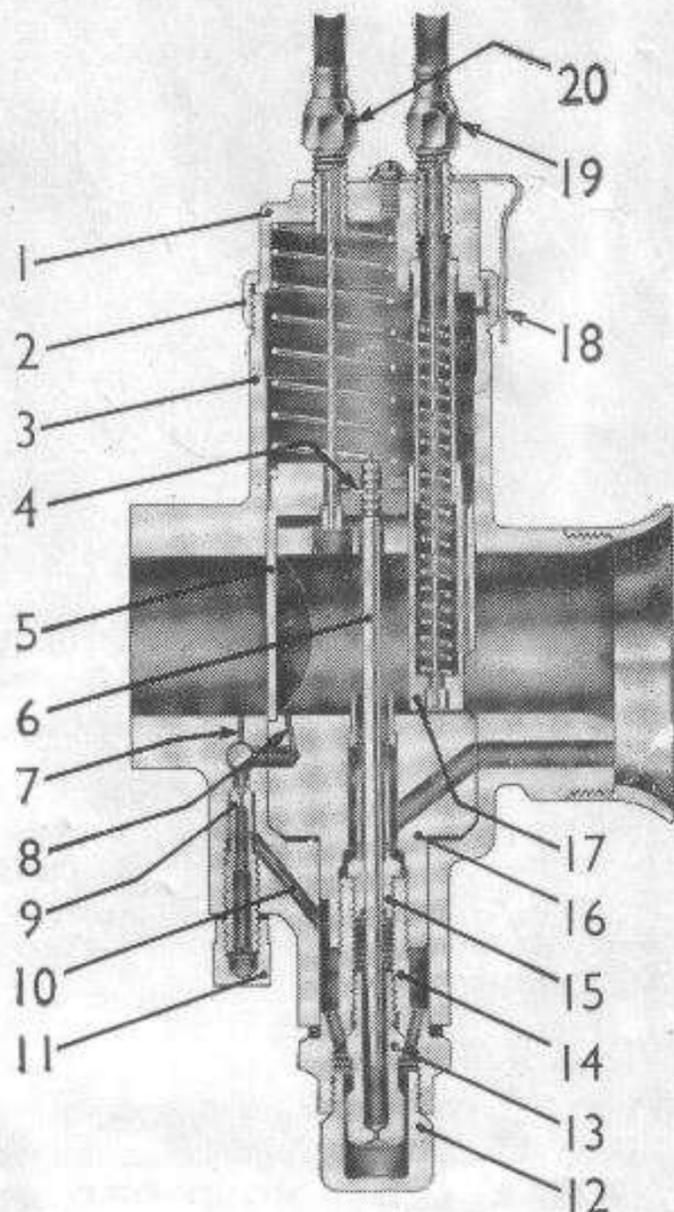

Fig. 2—Section through mixing chamber, showing air valve and throttle closed.
**PETROL FEED, verification.** Later models are fitted with a filter gauze at the inlet to the float chamber. To remove the filter gauze unscrew the banjo bolt (22), the banjo can then be removed and the filter gauze withdrawn from the needle seating. Ensure that the filter gauze is undamaged and free from all foreign matter. Before replacing banjo turn on petrol tap momentarily and see that fuel gushes out. Avoid petrol pipes with vertical loops as they cause air locks. Flooding may be due to a worn needle or a leaky float, but nearly all flooding with new machines is due to impurities (grit, fluff, etc.) in the tank—so clean out the float chamber periodically till the trouble ceases. If the trouble persists, the tank might be drained, swilled out, etc.
**BAD PETROL CONSUMPTION** of a new machine may be due to flooding, caused by impurities from the petrol tank lodging on the float needle seat and so prevent its valve from closing. Flooding may be caused by a worn float needle valve. Also bad petrol consumption will be apparent if the needle jet (15) (see fig. 2) has worn; it may be remedied or improved by lowering the needle in the throttle, but if it cannot be—then the only remedy is to get a new needle jet.